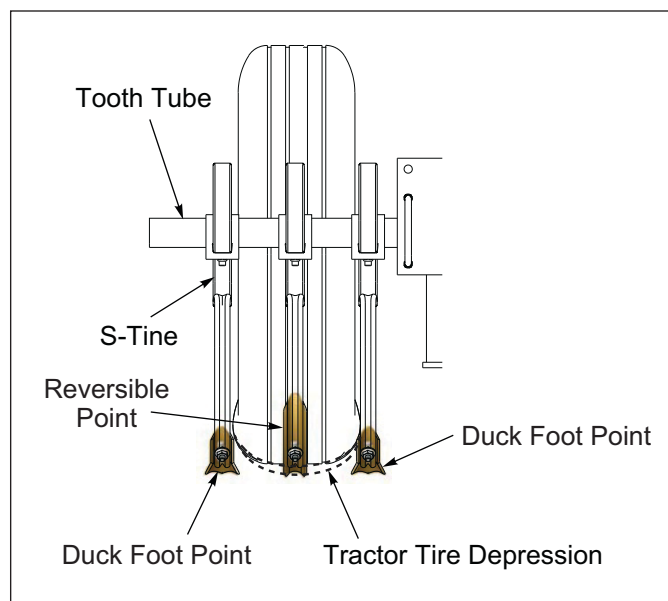

Figure 2-46: S-Tine Point Position
4. Assemble the Points to the S-Tines. The suggested pattern is to assemble the Reversible Point onto the center S-Tine and a Duck Foot Point on the S-Tine on either side of the center S-Tine with 3/8-16 x 1-3/4 Plow Bolt and Flanged Locknut. **See Figure 2-46.**